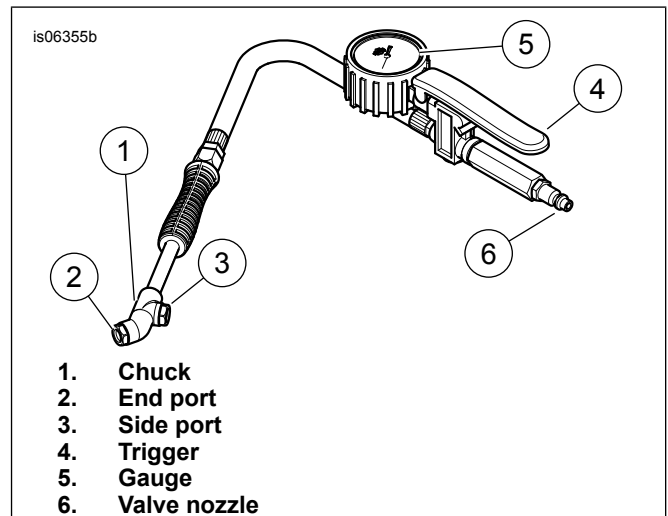

Figure 1. Analog Tire Pressure Gauge and Fill Valve
2. See Figure 1. Apply pressure gauge chuck (1) end port (2) to valve stem.
3. Note tire pressure on gauge (5). If gauge reads more than 13.8 kPa (2 psi), see **Adjusting Tire Pressure**. If no reading, or less than 13.8 kPa (2 psi), see **Filling a Deflated Tire**.